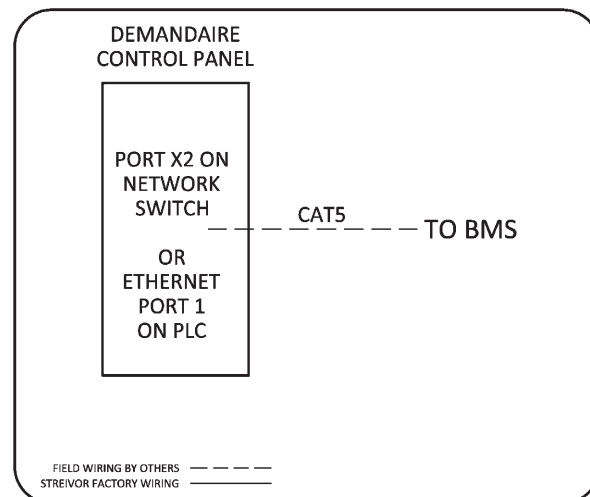

FIGURE 14: Optional Communication Wiring
- A CAT5 or greater Ethernet communication cable may be connected to *Port X2* on the Network Switch in the control panel for Modbus TCP communication with Building Management System(s) (*Figure 14*).
- A CAT5 or greater Ethernet communication cable may be connected to the Ethernet Port 1 on the PLC in the Control Panel for Modbus TCP or BacNET I/P communication with Building Management System(s) (*Figure 14*).